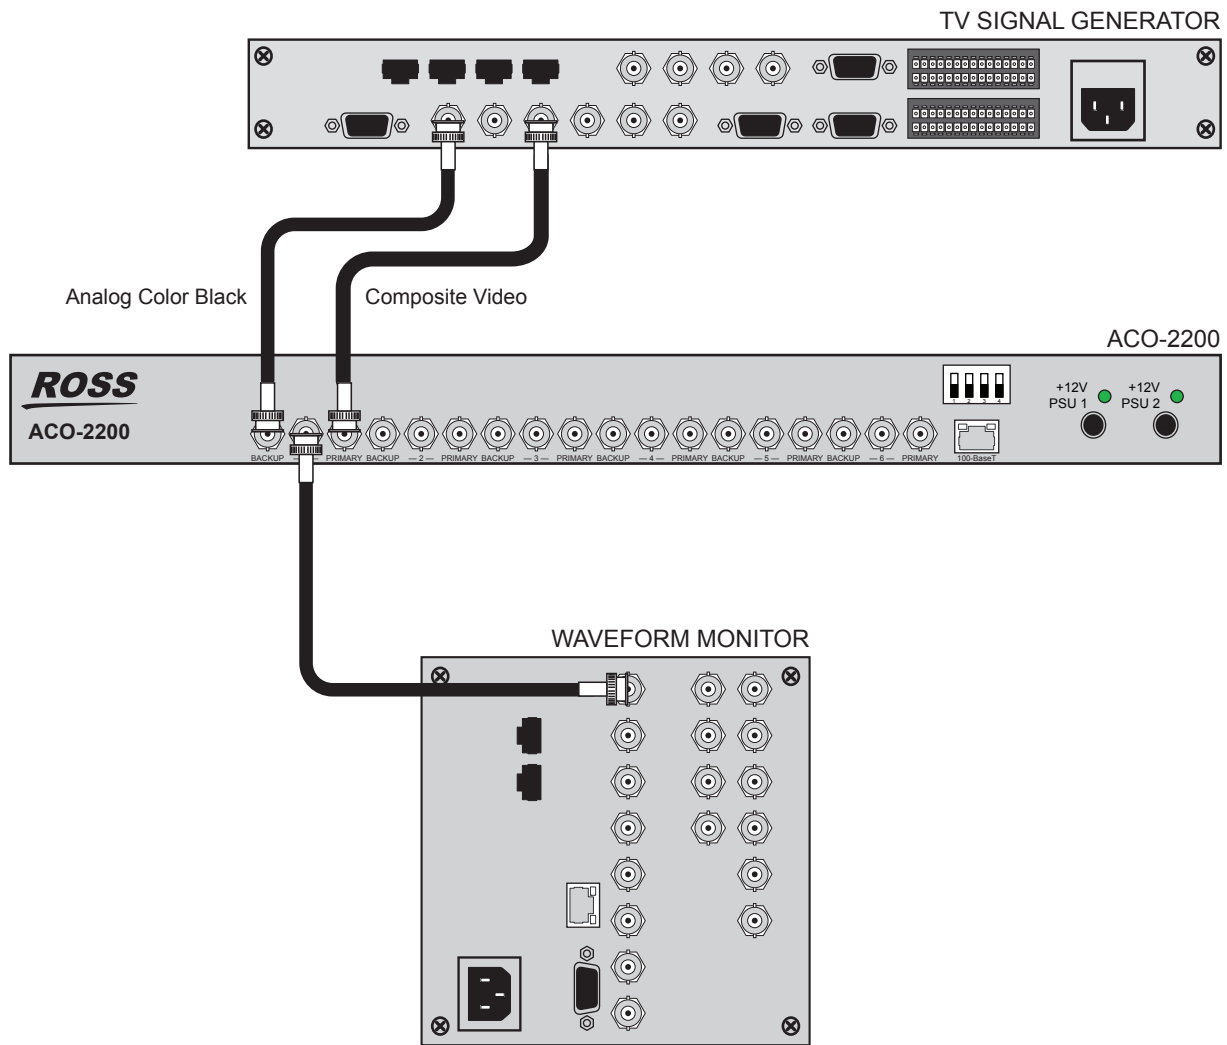

Figure 5.1 Functional Check Connections
2. Connect the ACO-2200 as shown in **Figure 5.1**. Ensure that the ACO-2200 output is properly terminated at the monitoring device.